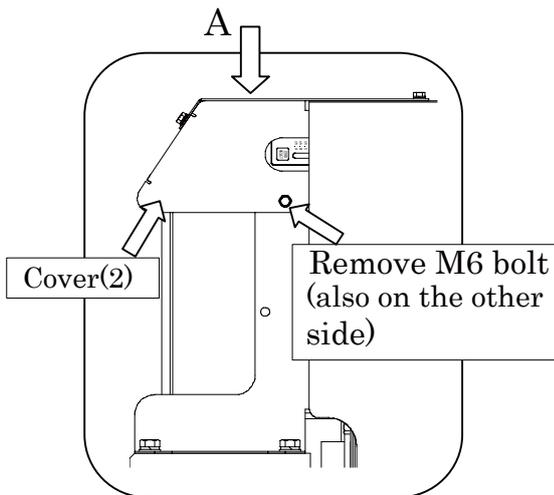
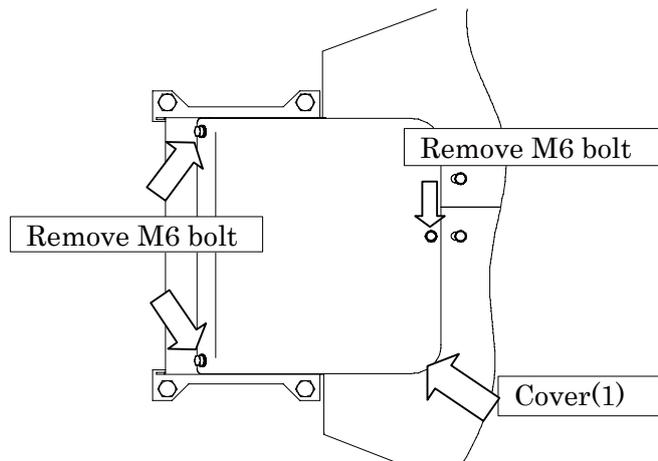

Fig.6 Battery mounting position in detail
Fig.7 Illustrated by viewing from arrow A
(2) Remove the M6 bolts (5 places) to remove the cover (1) and the cover (2) shown in the Fig. 6 and Fig. 7.